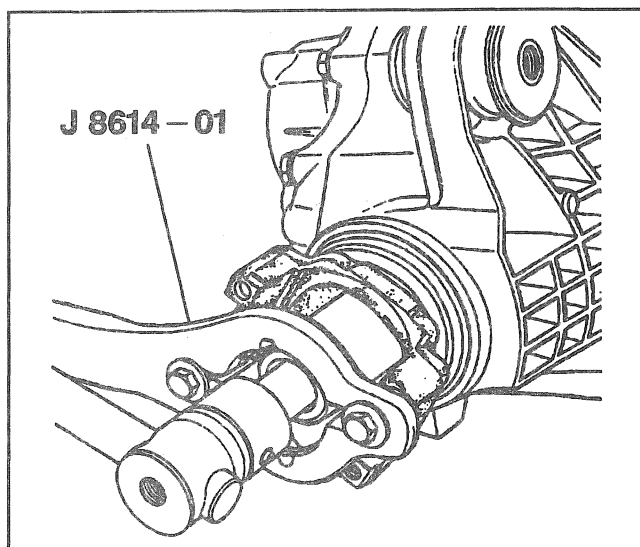

Figure 16—Removing the Pinion Nut and Flange
- Tighten nut until no end play is detectable while holding the flange with J 8614-01 (Figure 16).